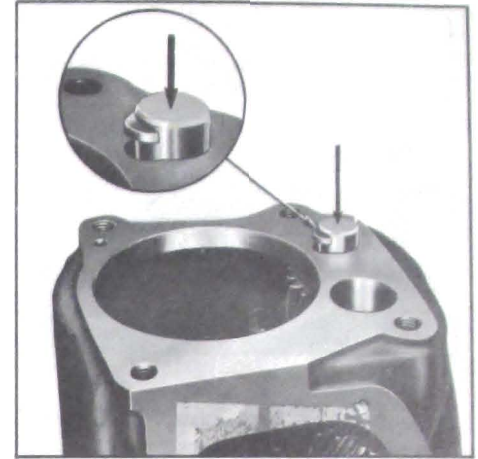

Figure 4-73—Installing Countershaft
6. With the transmission case resting on its front face, move countergear into mesh with main drive gear. Be sure thrust washers remain in place. Install woodruff key into end of countershaft and press shaft (Figure 4-73) until end of shaft is flush with rear face of transmission case.